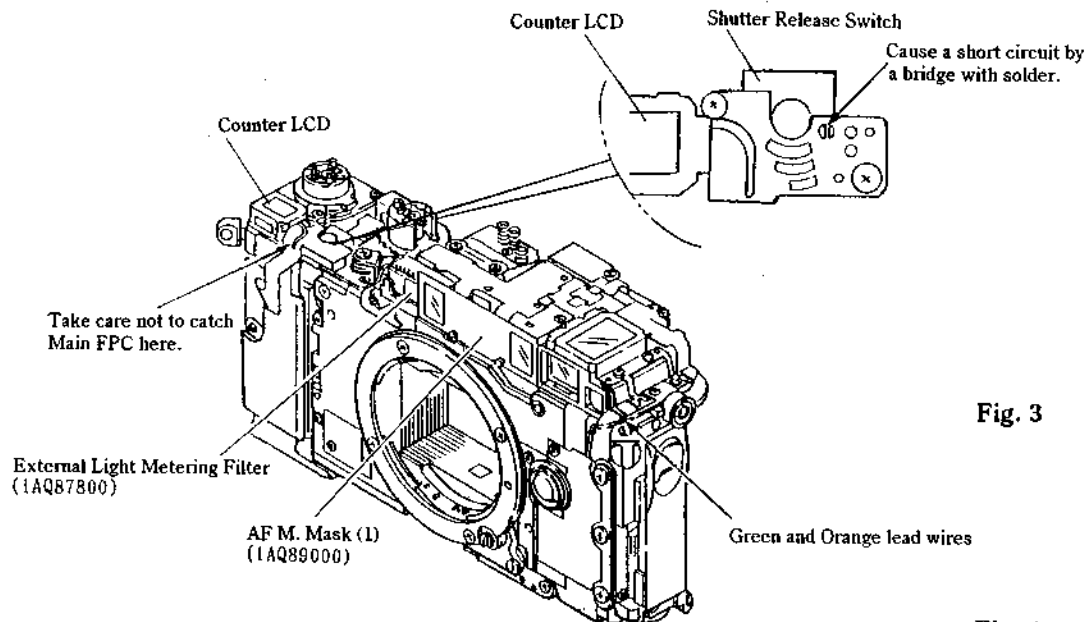

Fig. 3
- * To operate the camera with the Top Cover Ass'y removed, cause a short circuit on the pattern as shown in Fig. 3 by a bridge with solder.